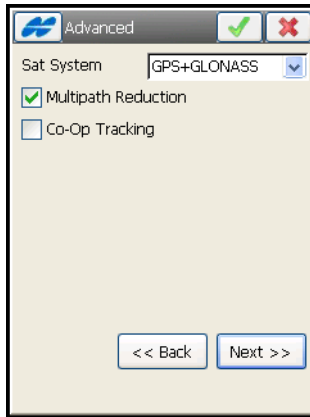

Figure 4-70. Config: Advanced
- Set the advanced parameters for the survey (Figure 4-70) and tap **Next**.